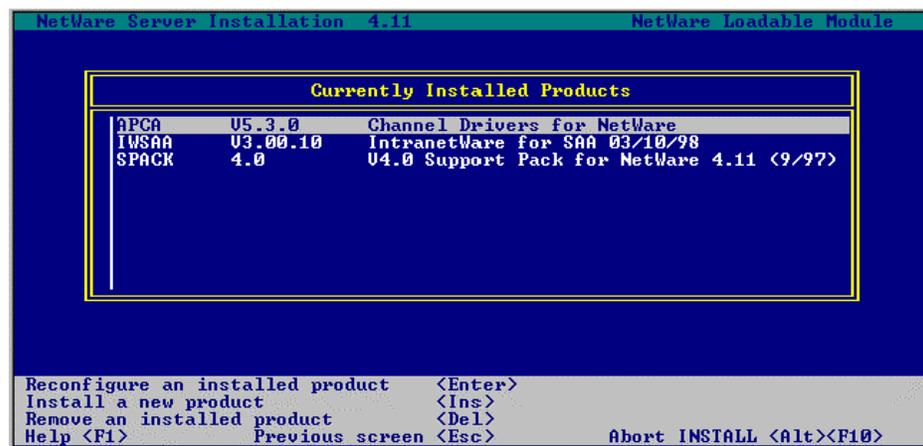

Figure 3-15. Currently Installed Products
9. The Channel Drivers for NetWare will be listed in the **Currently Installed Product** list (Figure 3-15).